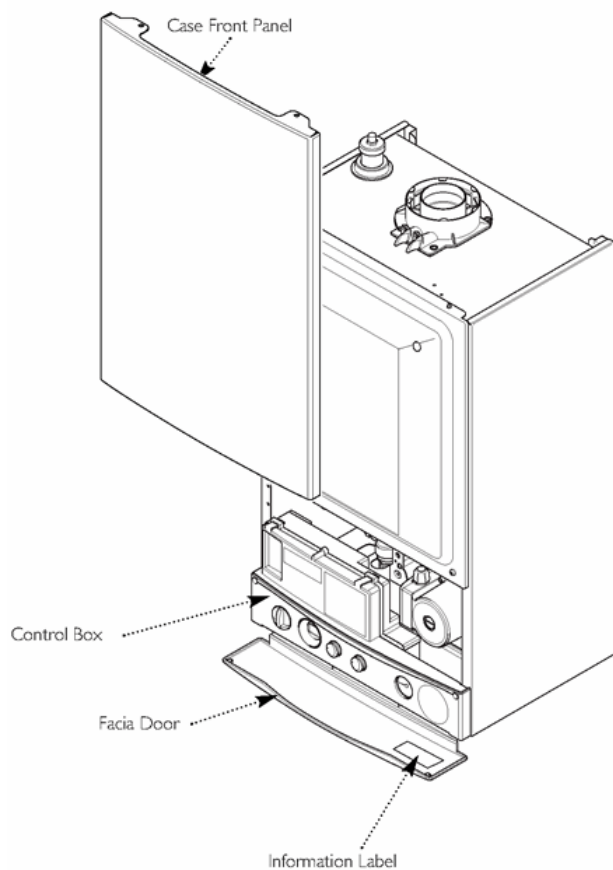

Fig. 1
5. The boiler data badge gives details of the model, serial number and Gas Council number and is situated on the front sloping face of the hydraulic plate. It is visible when the case front panel is removed and the control box hinged down (Fig. 1 & 1a).